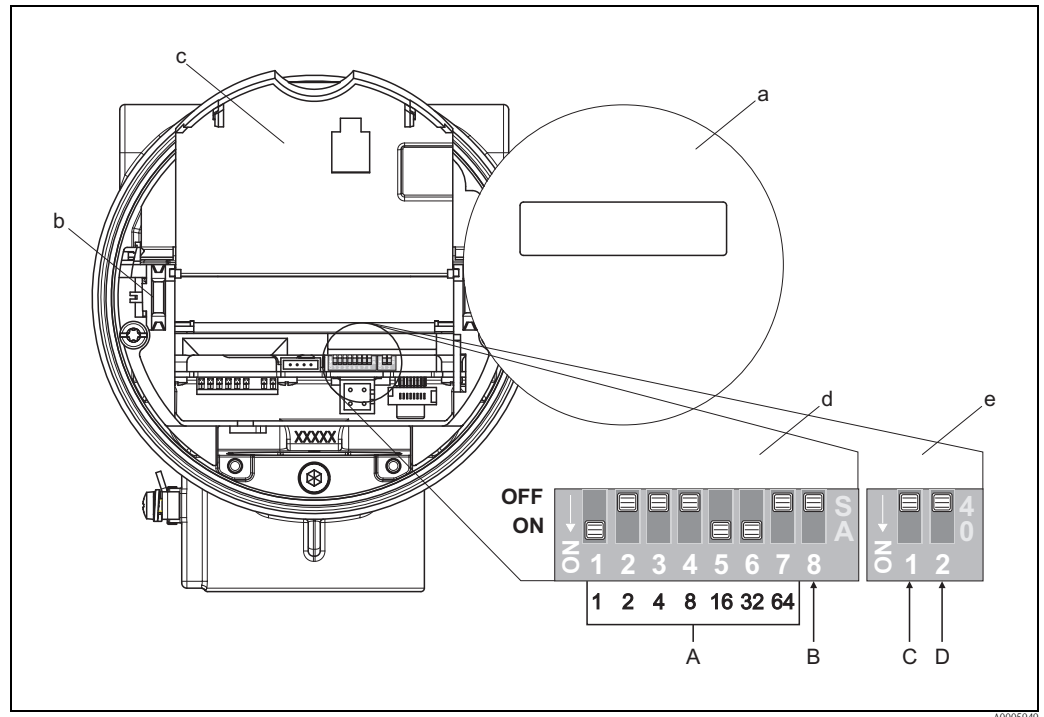

Fig. 20: Miniature switches for configuring the device address, the addressing mode and the write protection
5.4.1 Switching write protection on/off (Fig. 20 → Page 31)
5.4.2 Configuring the device address (Fig. 20 → Page 31)